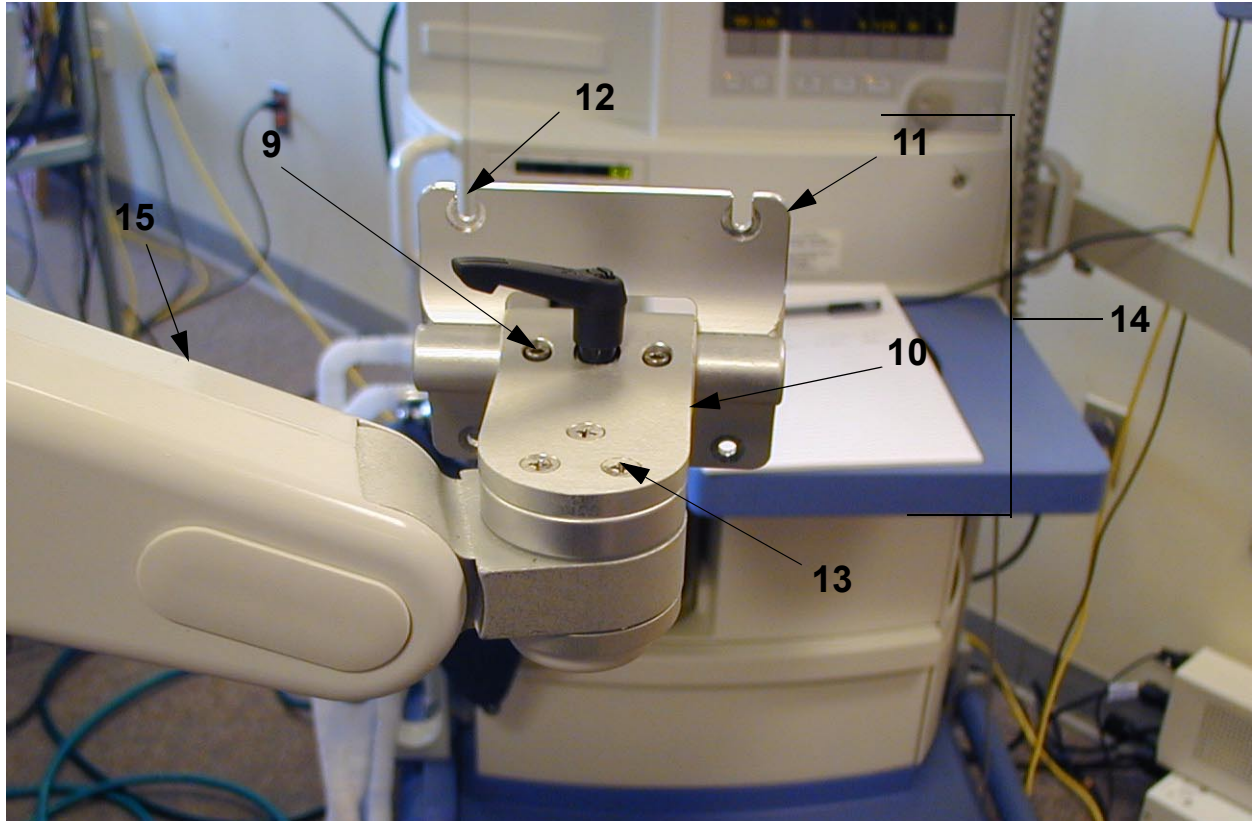

Figure 3. Tilt Clamp Assembly and Vesa Bracket Installation
6. Utilizing a T-30 Torx Wrench, loosen (do not remove) two screws (9) located on the back of the tilt clamp. See Figure 3.
7. Flip the tilt clamp (10) from vesa bracket (11) to reposition vesa bracket, ensuring remounting of bracket assembly will allow the open slots (12) on the vesa bracket to be located at the top of assembly. See Figure 3 for correct installation positioning of tilt clamp and vesa bracket.
8. Using 3 screws (13) previously removed in step 3, install tilt clamp assembly (14) onto Patient Arm (15).